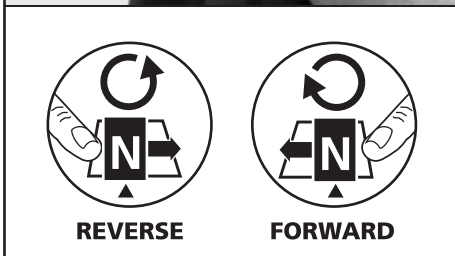

FIG.6
9.2 ROTATIONAL DRIVE SELECTION – FIG.6